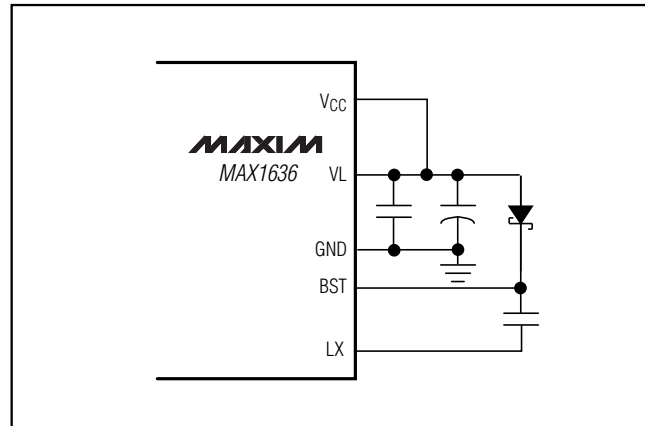

Figure 7. Capacitor Placement
- 2) Place the IC and signal components. Keep the main switching nodes (LX nodes) away from sensitive analog components (current-sense traces and REF capacitor). Place the IC and analog components on the opposite side of the board from the power-switching node. **Important:** The IC must be no further than 10mm from the current-sense resistors. Keep the gate-drive traces (DH, DL, and BST) shorter than 20mm and route them away from CSH, CSL, and REF. Place ceramic bypass capacitors close to the IC. The bulk capacitors can be placed further away. If using VL to power VCC, minimize noise by placing a 0.1 μ F capacitor close to the VCC pin and placing the 4.7 μ F capacitor further away, but closer than the boost diode (Figure 7).